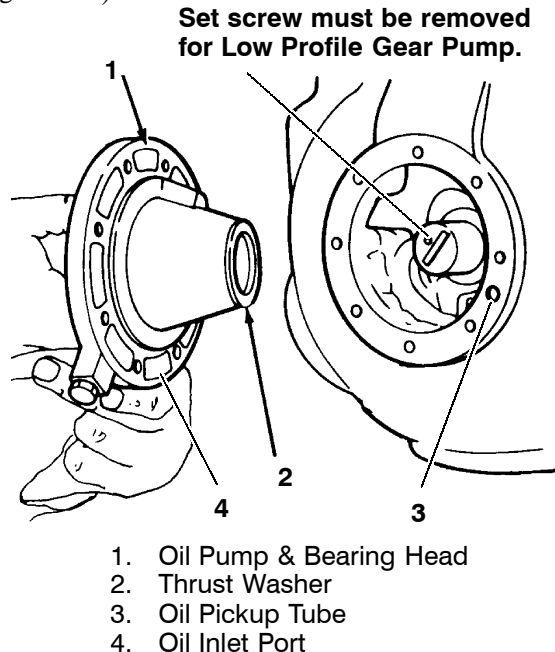

Figure 3-4. Oil Pump and Bearing Head Assembly
Remove eight capscrews and remove oil pump bearing head assembly, gasket and thrust washer. (See Figure 3-4.)
Set screw on crankshaft must be removed for Low Profile Gear Pump (See Figure 3-4).
2. Install the pump end thrust washer on the two dowel pins located on the bearing head. (See Figure 3-4.)
1. Install the pump end thrust washer on the two dowel pins located on the bearing head. (See Figure 3-4.)
3. Remove eight capscrews and remove oil pump bearing head assembly and gasket. (See Figure 3-4.)